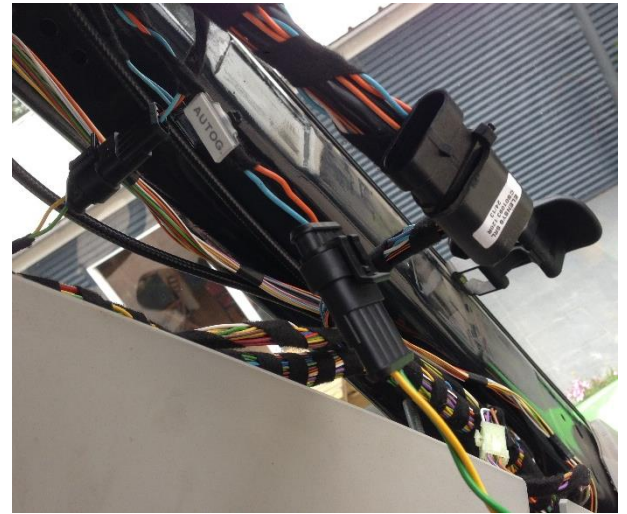

Figure 8 Connection with Deutz-Fahr CAN-Bus.
5. Harness Deutz-Fahr AgroSky: connects the SBG system with the Deutz-Fahr CAN-Bus. The CAN-Bus connectors for steering are located in the B-pillar at the right side of the tractor. Remove the cover to find these connectors (Figure 8). One of these connectors is located somewhere behind the radio.